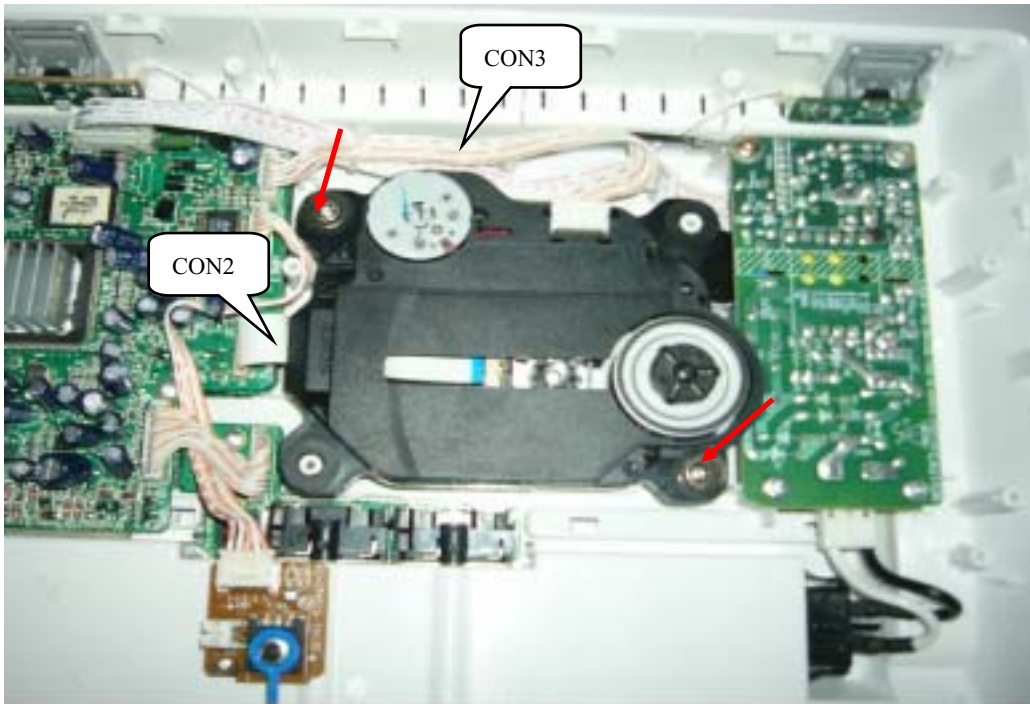

Figure 7
Step4: Dismantling Loader, disconnect the 2 connectors aiming in the below figure, and remove 2 screws around the Loader. (Figure 7)